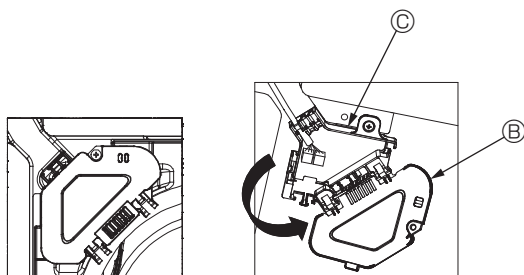

Fig. 7-5
- ③ Remove the one screw securing the connector box cover, and then open the cover. (Fig. 7-5)
- ④ Place the junction wire connector in the connector box.
- ⑤ Install the wire cover and connector box cover.